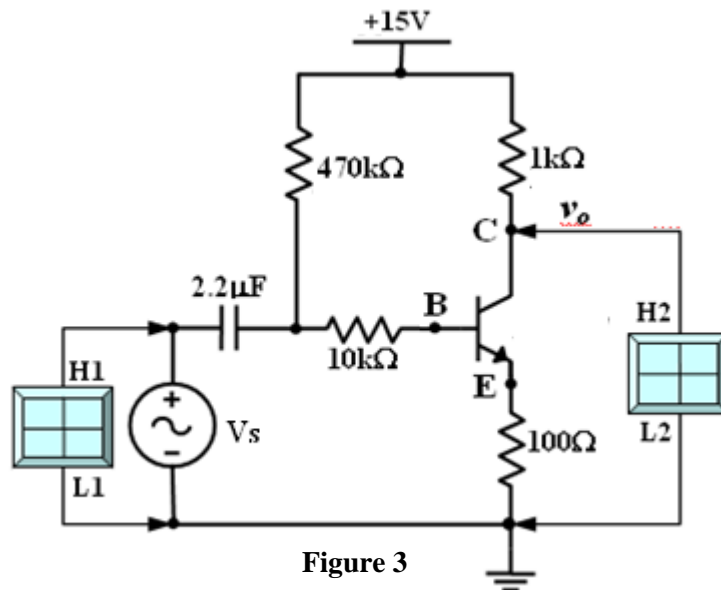

Figure 3
- Construct the circuit shown in Figure 3, using **BC107 BJT** and use  $V_{CC} = +15$ V. (Make sure the BJT is connected with the correct leads). **Do not connect the Function Generator and the Oscilloscope channels.**
- Connect the Function Generator at the input of the circuit. Connect CH1 of the Oscilloscope to input voltage source and CH2 to the output such that the high terminal of CH2 is at the collector (**C**) as shown in Figure 3.
- 1- On the same circuit of Figure 3, connect the high terminal of the CH2 probe to the emitter (E).